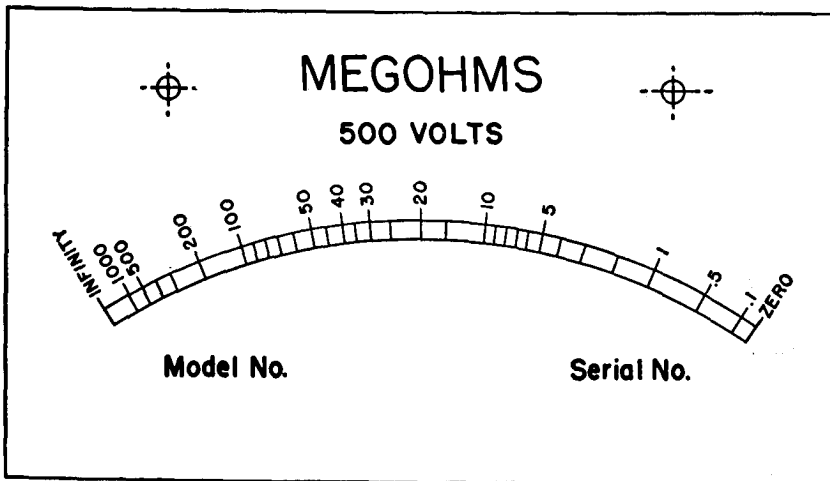

Figure 20. Meter scale.
e. Replace the meter scale plate (figs. 4 and 6) with a blank scale plate. Calibrate and mark the new scale plate as shown in figure 20, according to directions in paragraph 72.
- (1) Connect the LINE and GROUND terminals together, and turn the hand generator crank at operating speed. The meter pointer should deflect to the right-hand end of the blank scale plate. This point is the ZERO calibration on the scale. Mark this point in pencil.
- (2) Remove the connector between the LINE and GROUND terminals of the ohmmeter, and again turn the hand generator crank at operating speed. The pointer should deflect to the opposite end of the blank scale plate. This is the INFINITY point on the scale. Mark this point in pencil.
- (3) Connect resistors (par. 71), singly or in series, to obtain the various values of resistance similar to those indicated on the original scale (fig. 20). Connect the resistors between the LINE and GROUND terminals of the ohmmeter. Each time turn the hand generator crank at operating speed. Mark each value of resistance on the blank scale plate in pencil.